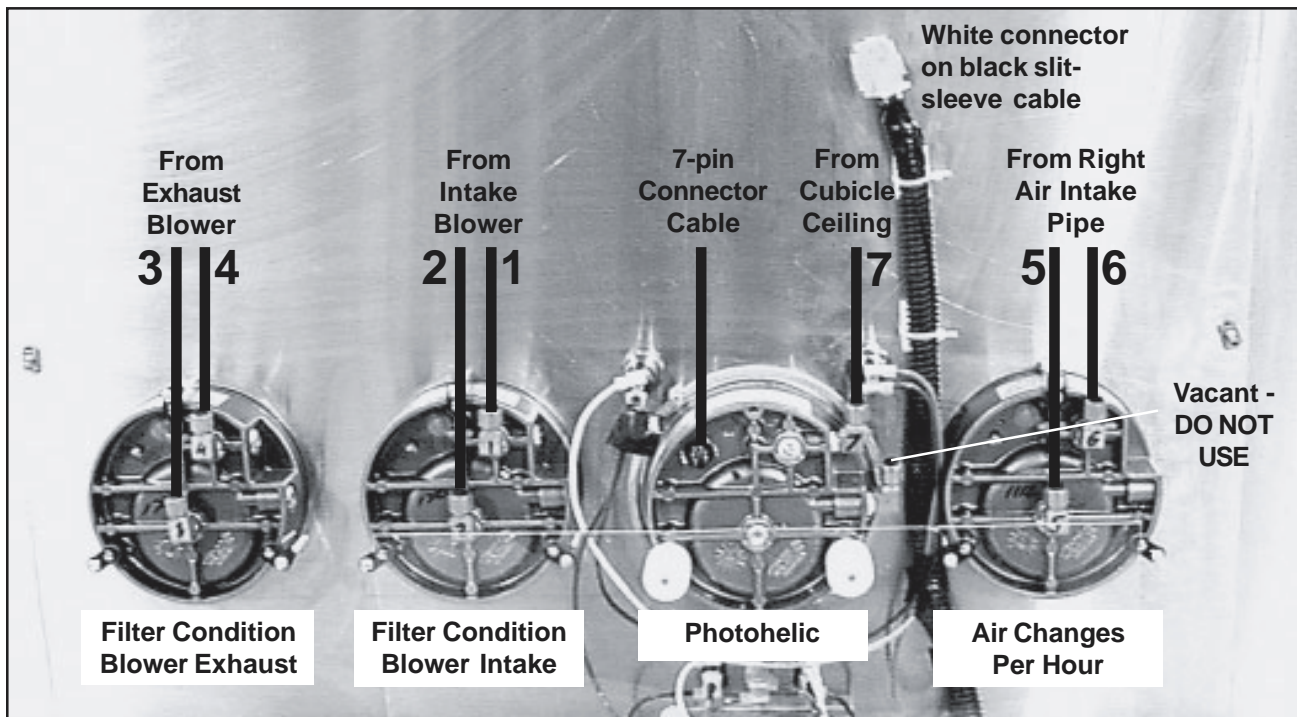

Figure 42. Piping & Wiring Connections on Rear of Front Panel
1. Connect air sensor lines 1 and 2 to the filter condition blower intake gauge (Figure 42).